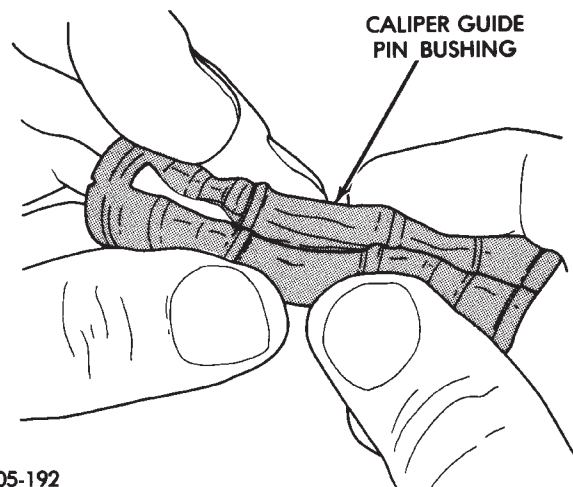

**Fig. 155 Folded Caliper Guide Pin Bushing**
(1) Fold the bushing in half lengthwise at the solid middle section of the bushing (Fig. 155).